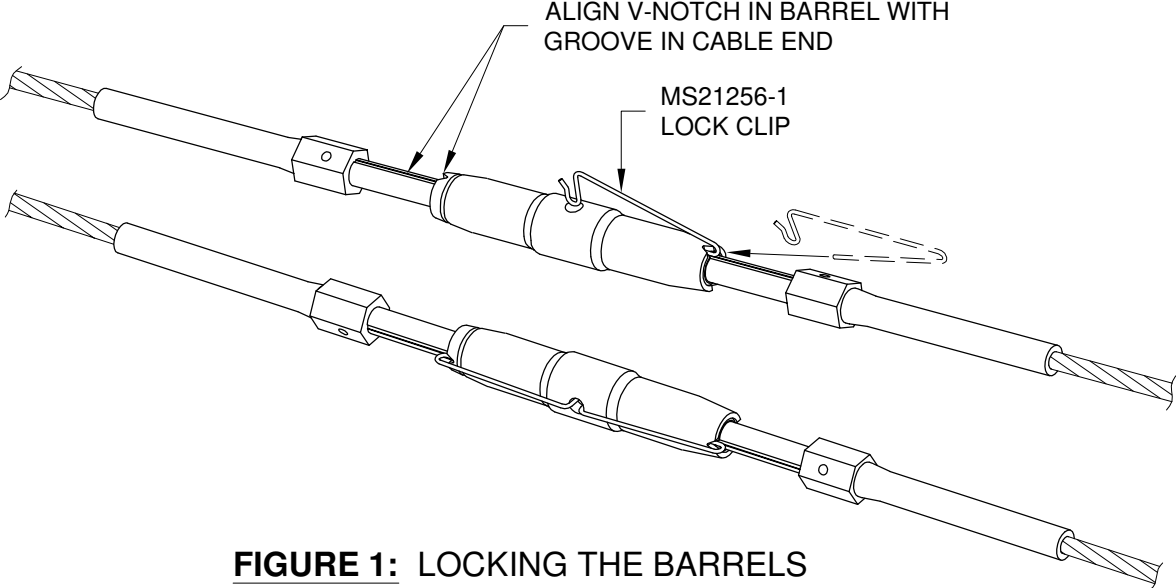

FIGURE 1: LOCKING THE BARRELS
Step 1: Once the proper tension is achieved, and no more than three threads are exposed from the ends of the barrels, align the V-notch in the ends of the barrel with the groove in the cable ends and then insert the lock clips as shown in Figure 1. The hook end of the lock clips are inserted into the hole in the center of the barrel and must be completely pressed in until the hook springs open inside the barrel.